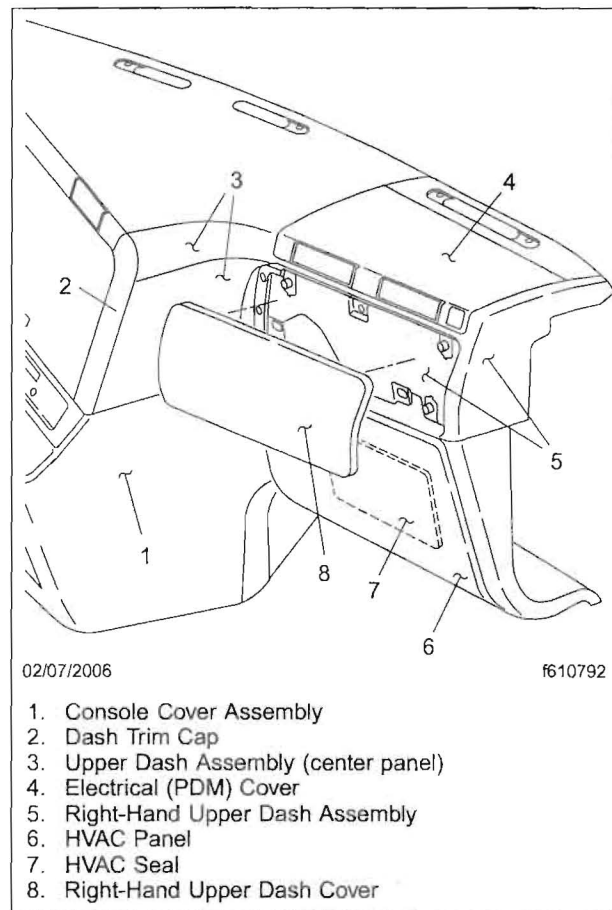

Fig. 9, Dash Panels (left-hand drive shown)
1. Remove the necessary dash panels to gain access to the top and bottom of the PDM. See Fig. 9.